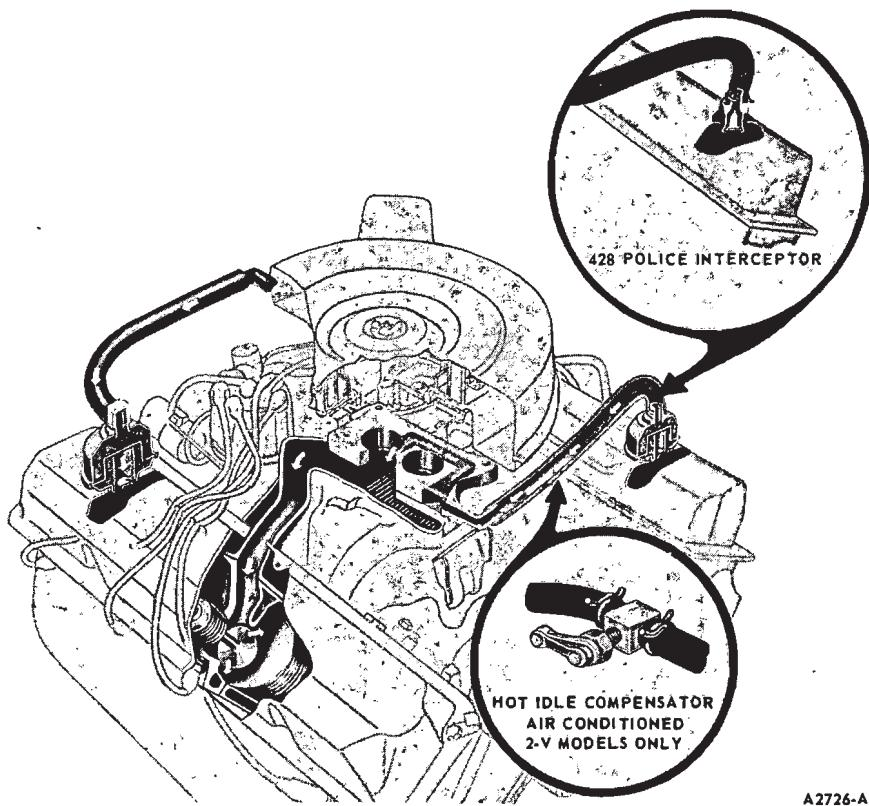

FIG. 12—Positive Closed-Type Crankcase Ventilation System—390 and 428 Engines Except 428 Police Interceptor
2. Remove the vent hose and oil filler cap (Fig. 12 or 13).